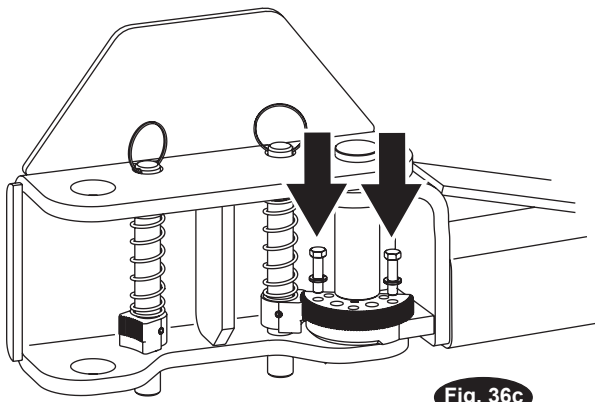

Fig. 36c
Then, install the (3) 3/8"-16NC x 1-1/2" grade 8 HHCS (12 total for all 4 arms) and 3/8" Spring Lock washers into the gear and arm, but do not tighten. Reference Fig. 36c, Fig. 37, and Fig. 38.